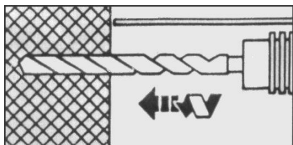

FIG.2
2. Drill a 20 mm diameter hole to the pre-set depth (Fig.2)